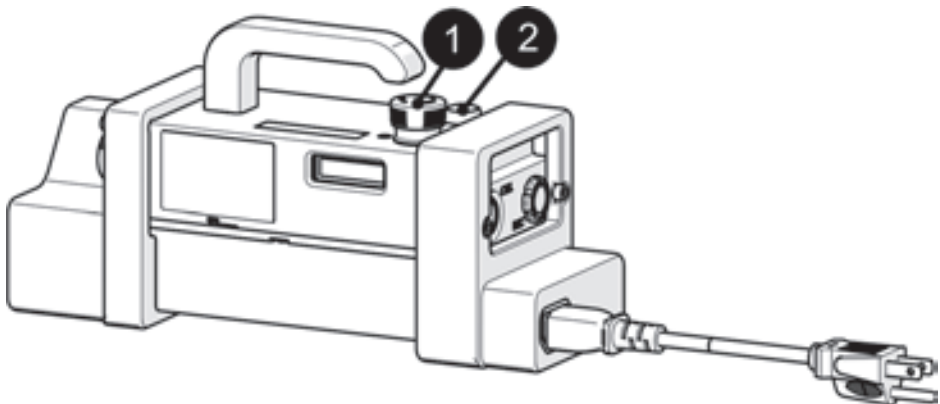

Figure 3-1 Power controller
3. Locate the red emergency stop push-button on the power controller. Rotate this button clockwise to unlatch item #1 (see Figure 3-1 on page 57).
The green push-button on the power controller activates the system (see item #2, Figure 3-1 on page 57).